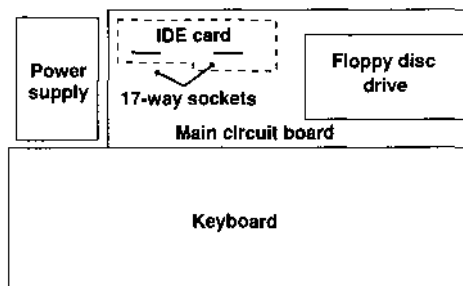

Figure 4. Positioning the A3000 IDE interface card
10. Identify the two seventeen-way sockets located on the A3000's main circuit board (see figure 4). Remove the IDE interface card from its protective bag, and holding by its edges only, position it so that the pins on the underside of the card align with the two sockets.